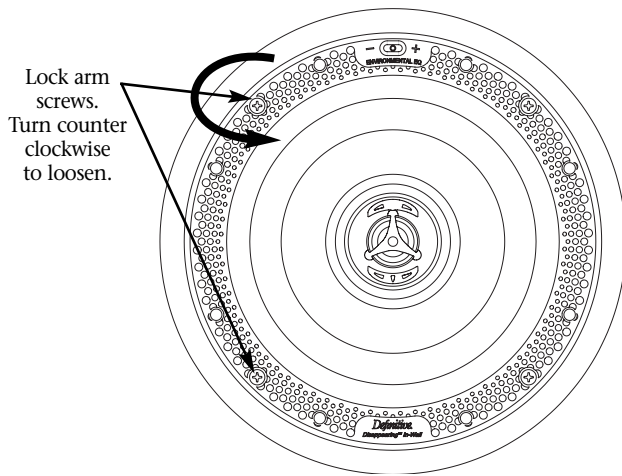
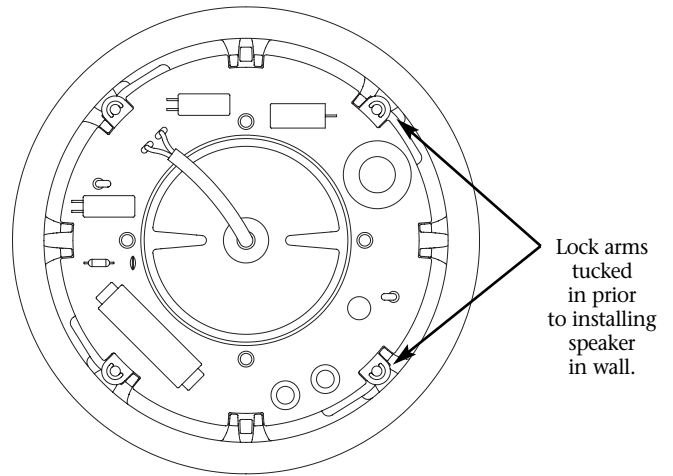

Figure 13
Figure 14
- Loosen the rotating lock arms by turning the lock arm screws on the front of the speaker counter clockwise 1/2 to 1 turn, just enough to allow the lock arm to move freely. [Figure 13]. Make sure that the rotating lock arms are flipped inwards [Figure 14] so that your speaker fits into your cutout.